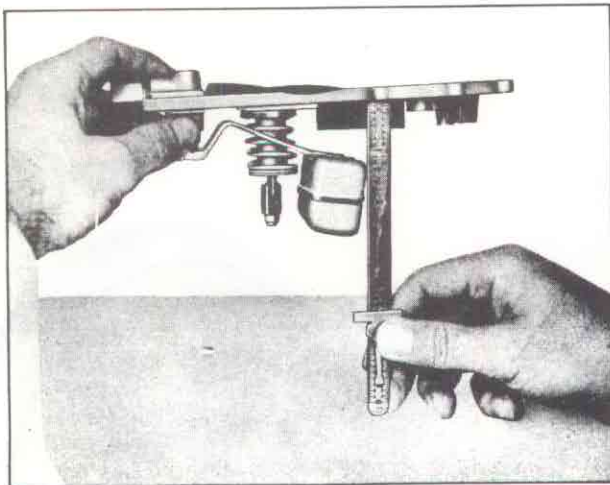

Figure 50
21. With the cover held upright the float should hang downward so that the lowest point of the float is $2\frac{9}{32}$ " below the surface of the bowl cover (fig. 50). Bend the float drop tang to adjust.